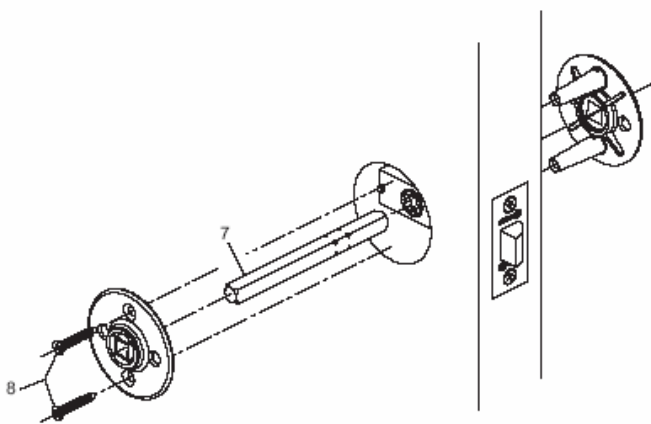

Figure 3
- 4 - Slide mounting bracket over spindle [7] and fasten with two screws [8], as shown on figure 3.